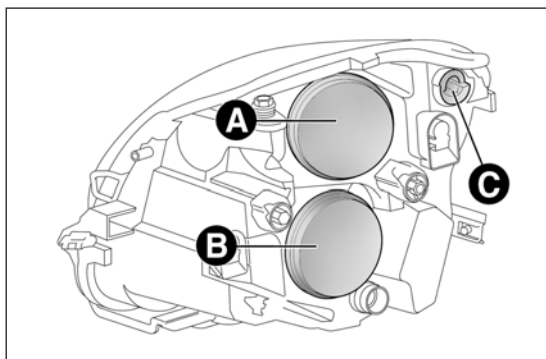

fig. 131
These contain the bulbs for the side lights/daytime running lights (DRL), dipped beams, main beams and direction indicators. The bulbs are arranged as follows fig. 131:
- ❑ remove cover A fig. 131;
- ❑ refit cover A fig. 131.
- ☐ remove cover B fig. 131;
- ☐ refit cover B fig. 131.